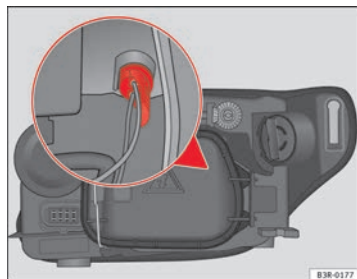

Fig. 207 Side light
- Remove the bulb holder by pulling on the grip ⇒ fig. 207 (it can also be removed by pulling on the bulb holder wires).